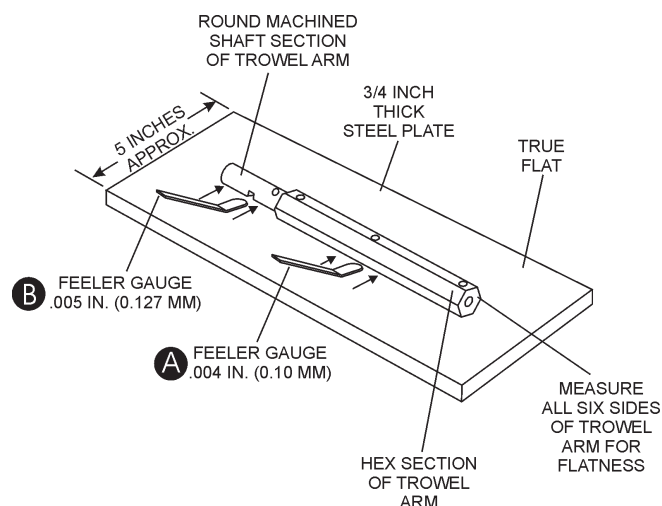

Figure 27. Trowel Arm Flatness Test
- Next, check the clearance between the round shaft and the test surface as one of the flat hex sections of the arm rests on the test surface. Rotate the arm to each of the flat hex sections and check the clearance of the round shaft. Use a feeler gauge of .005" (0.127 mm). Each section should have the **same clearance** between the round of the trowel arm shaft and the test surface (Figure 27, B) .